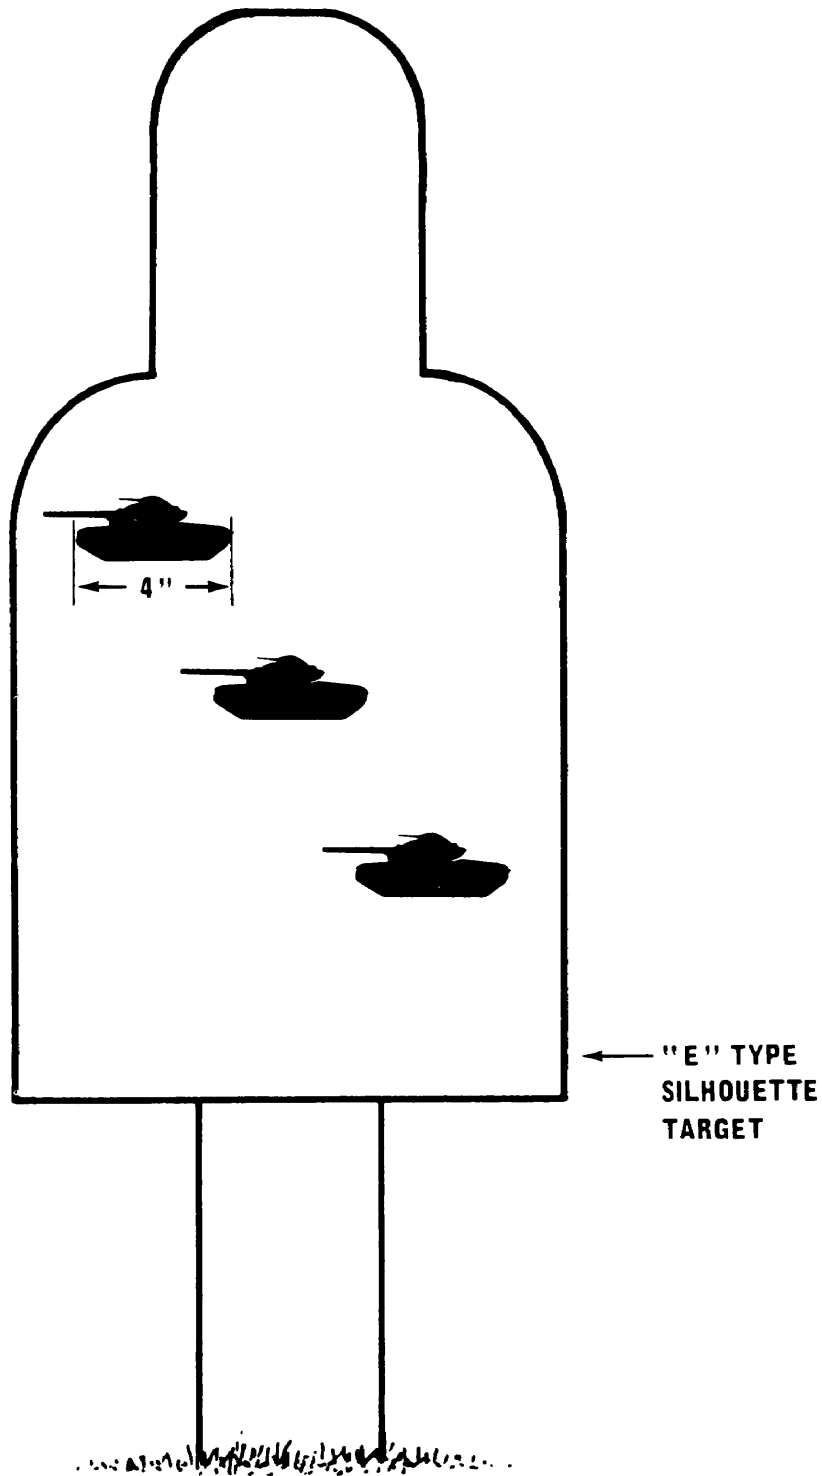

Figure 25. Target construction, 106-mm rifle, 25-meter range.
- (1) *Purpose.* This table is designed to test the gunner's ability to obtain the correct Sight picture.
- (2) *Physical layout.* The exercise is fired on the standard 25-meter range, or any other suitable firing area. The target used is the standard E-type silhouette. From white paper, cut three 4-inch tank silhouettes for each E-type target as shown in figure 25.
- (3) *Equipment.*